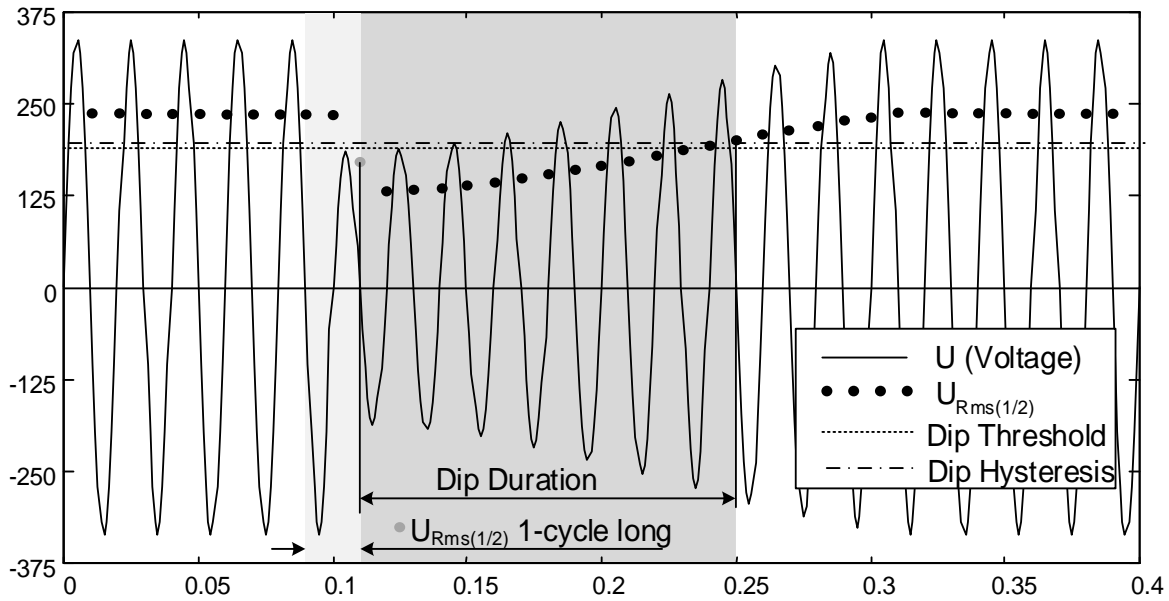
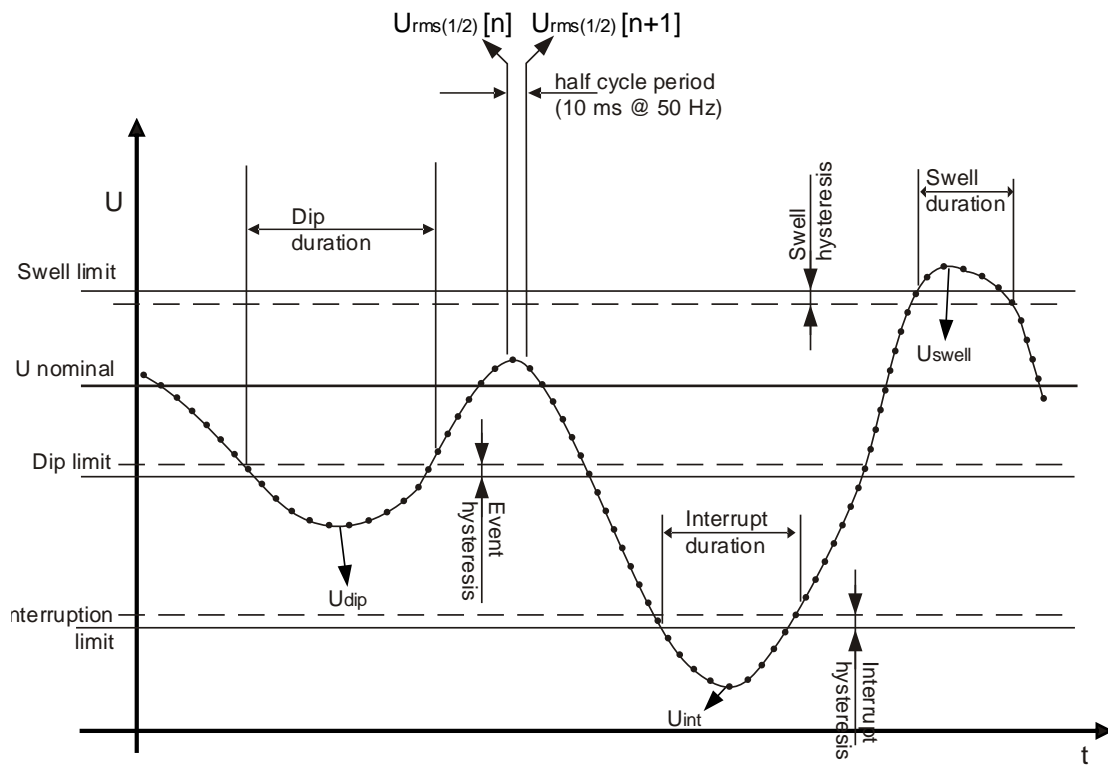

Figure 6.11: $U_{Rms(1/2)}$ 1-cycle measurement
Figure 6.12 Voltage events definition
- On single-phase system (Connection type: 1W), a voltage dip begins when the $U_{Rms(1/2)}$ voltage falls below the dip threshold, and ends when the $U_{Rms(1/2)}$ voltage is equal to or above the dip threshold plus the hysteresis voltage (see Figure 6.12 and Figure 6.11),.
- On single-phase system (Connection type: 1W) , a voltage swell begins when the $U_{Rms(1/2)}$ voltage rises above the swell threshold, and ends when the $U_{Rms(1/2)}$ voltage is equal to or below the swell threshold plus the hysteresis voltage (see Figure 6.12 and Figure 6.11),
- On single-phase system (1W), a voltage interruption begins when the $U_{Rms(1/2)}$ voltage falls below the voltage interruption threshold and ends when the $U_{Rms(1/2)}$ value is equal to, or greater than, the voltage interruption threshold plus the hysteresis (see Figure 6.12 and Figure 6.11),